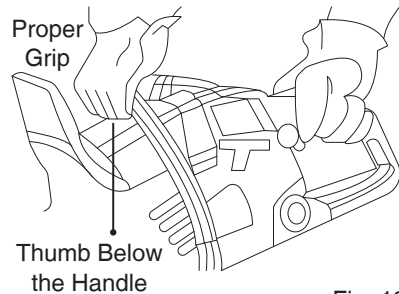

Fig. 12
- maintain a proper grip on the saw whenever the motor is running. The fingers should encircle the handle and the thumb should wrap under the handle (Fig 12). This grip is least likely to be broken by a kickback or other sudden reaction of the saw. Any grip in which the thumb and fingers are on the same side of the handle is dangerous because a slight kick of the saw can cause loss of control (Fig.13)